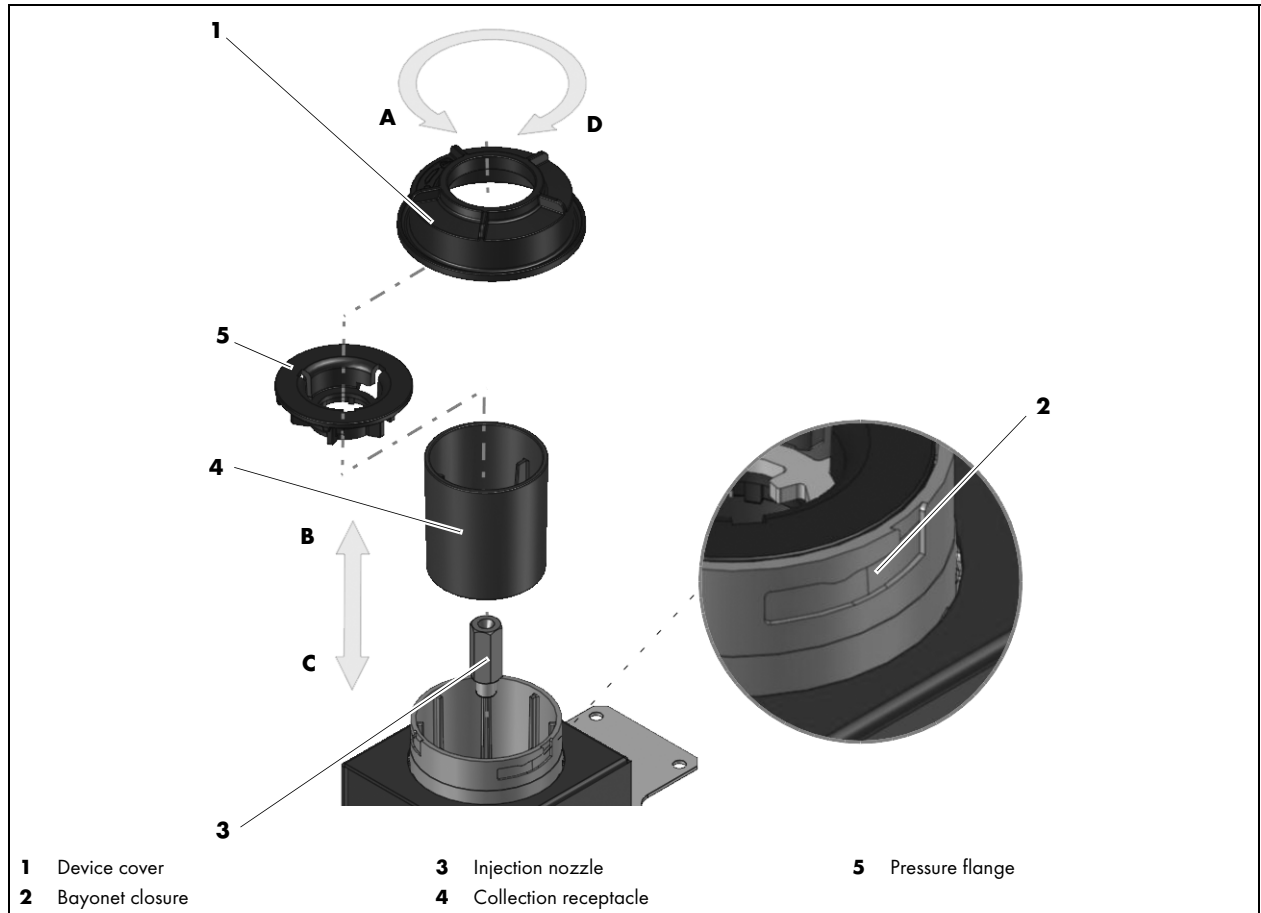

Fig. 10 Maintenance and cleaning
⇒ Fig. 10 Maintenance and cleaning on page EN-15
• Device cover loose	<ul style="list-style-type: none"> • Check that the device cover (1) is tight and tighten if necessary ⇒ Fig. 10 Maintenance and cleaning on page EN-15